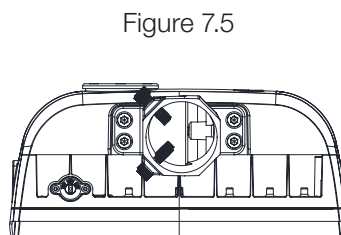

Figure 7.5
STEP 2: Adjust the handle to the desired angle by turning it left and right, as shown; (Figure 7.5).